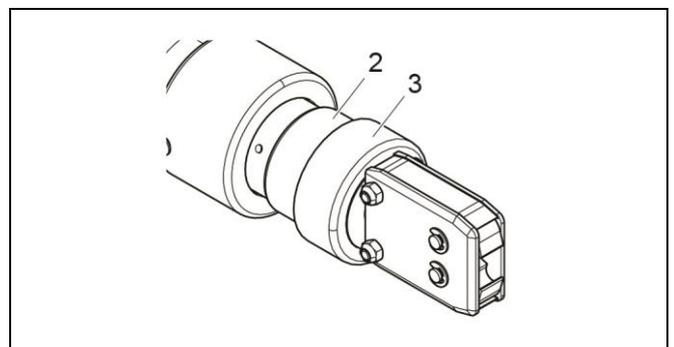

Fig. 13: Rotate the pincer head .
2. Grip pincer head in area 2 (Fig. 13/2) and rotate into the desired position.
- ▶ During operation, ensure that the union nut is tightened at all times (Fig. 13/3). Otherwise the pincer head could come loose. This can lead to defective closures.